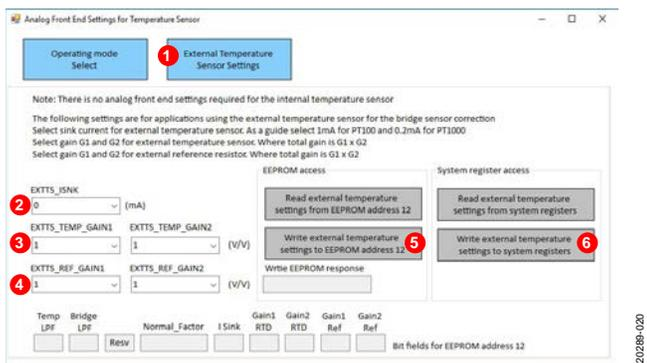

Figure 20. How to Set RTD Gain and Current in the ADA4558EBZ Evaluation Software
2. To open the settings for the external temperature sensor, click **External Temperature Sensor Settings** (Label 1 in Figure 20).
3. Click **EXTTS_ISNK** (Label 2 in Figure 20) and set the sink current for the RTD. As a guideline, choose 1 mA for a PT100 or 0.2 mA for a PT1000.
4. Click and select the gains for the RTD by using the **EXTTS_TEMP_GAIN1** and **EXTTS_TEMP_GAIN2** dropdown menus (Label 3 in Figure 20).
5. Click and select the gains for the reference temperature sensing resistor by using the **EXTS_REF_GAIN1** and **EXTS_REF_GAIN2** dropdown menus (Label 4 in Figure 20). For examples of selecting gains, see the ADA4558 Hardware Reference Manual.
6. Click **Write external temperature setting to EEPROM address 12** and verify that the **write EEPROM response** returns **Positive** (Label 5 in Figure 20).
7. The EVAL-ADA4558EBZ operates from the system registers. Click **Write external temperature settings to system registers** to update the registers (Label 6 in Figure 20).